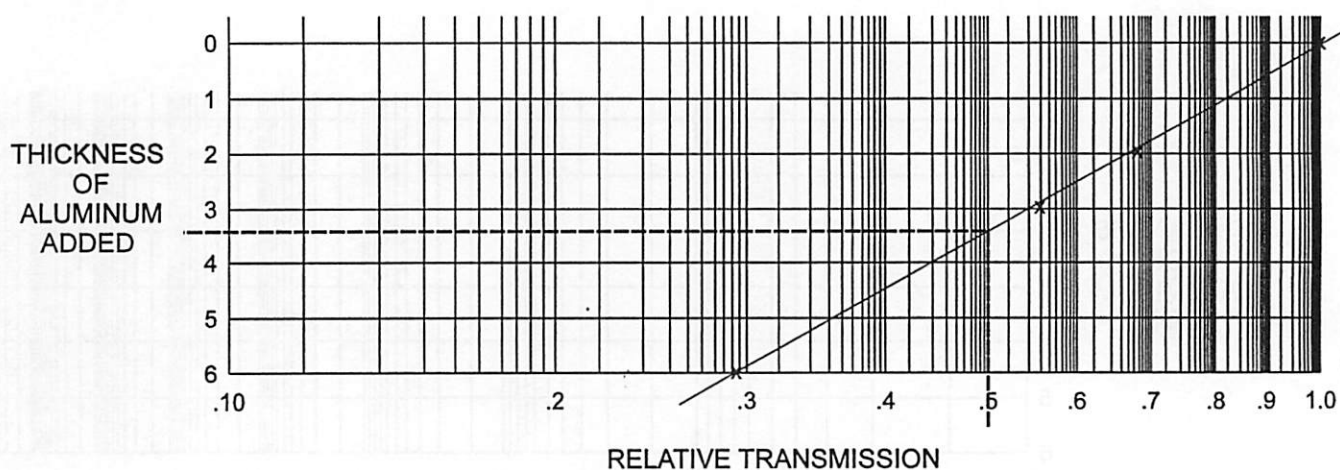

Figure 3: HVL plot (example)
12. Table 12 and figure 3 show example HVL determination.